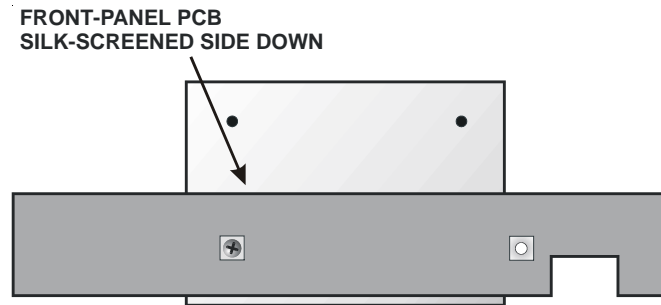

Figure 5. Preparing Front Panel to Install Light Bar.
- Place the front panel board on top of the heat spreader with the silk screened side down as shown in Figure 5. Temporarily attach the board to the heat spreader with a single 3/16" (4.8 mm) pan-head screw.